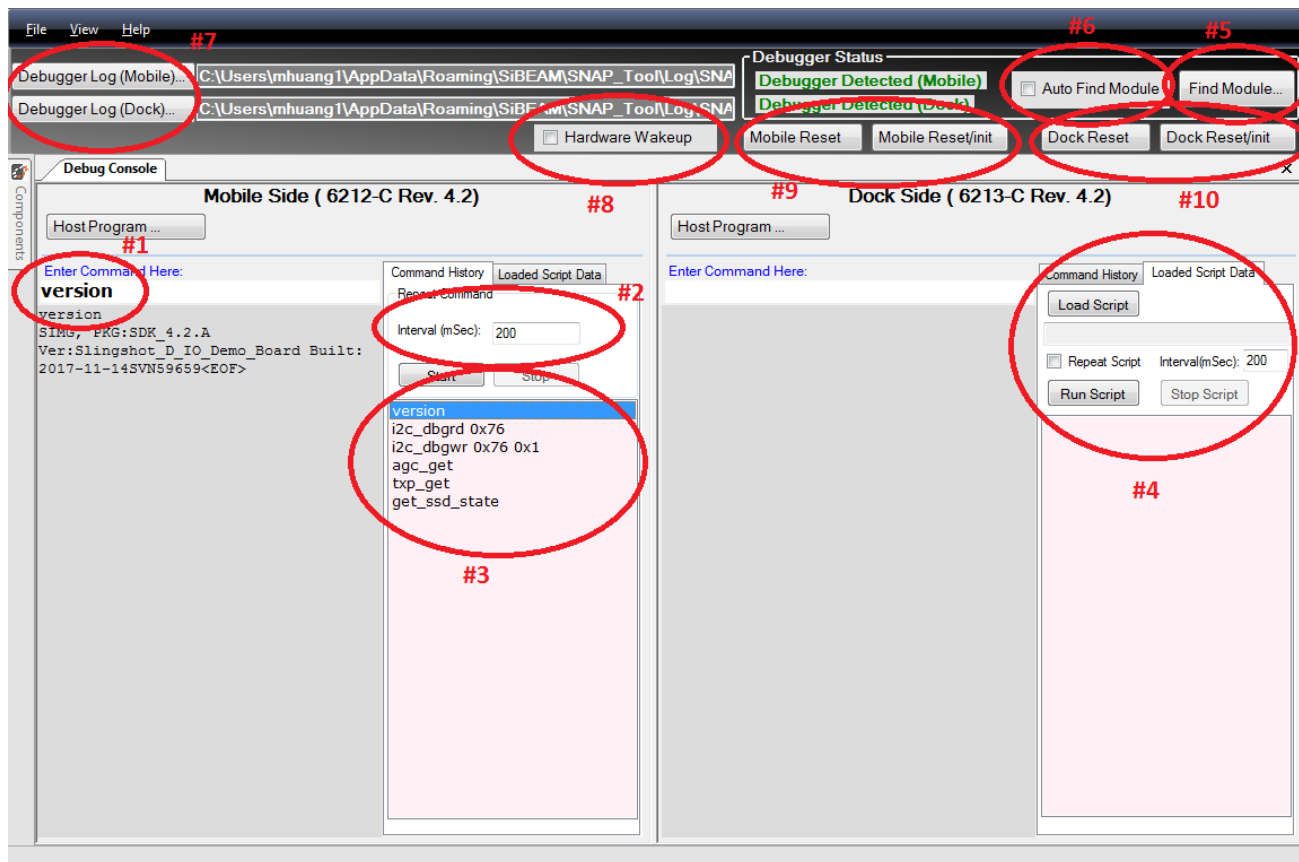

Figure 3.3. Debug Console Page
The Debug and Log Console, as shown in Figure 3.3, is the main component used while developing the Snap module. The console is used for the following primary functions:
- Enter debug commands in the “Enter Command Here:” area, such as “version” shown in Figure 3.3 above (1).
- Same command can be executed with desired mSec wait time in “Interval (mSec)” (2).
- Double click on any prior command in “Command History” panel (3).
- Execute a saved script described in text format in “Loaded Script Data” panel. Specify the number of mSec between each command execution (4). You can also continually execute the script by checking the “Repeat Script” option.
- Debug any new Snap devices by clicking the “Find Module” button (5).
- Snap Tool can automatically attach to any new Snap device by checking the “Auto Find Module” option (6).
- Change log file name by pressing “Debugger Log (Mobile)” or “Debugger Log (Dock)” buttons (7).
- Select the method through which the “wakeup” command is used (8). If the box is selected, Snap tool wakes up the chip through a Nuvoton pin. If the box is not selected, Snap tool wakes up the chip through Snap internal registers.
- Mobile Reset button executes “ss_reset” in the mobile console. Mobile Reset/init executes “ss_reset” followed by “ss_init” in the mobile console (9).
- Dock Reset button executes “ss_reset” in the dock console. Dock Reset/init executes “ss_reset” followed by “ss_init” in the dock console (10).